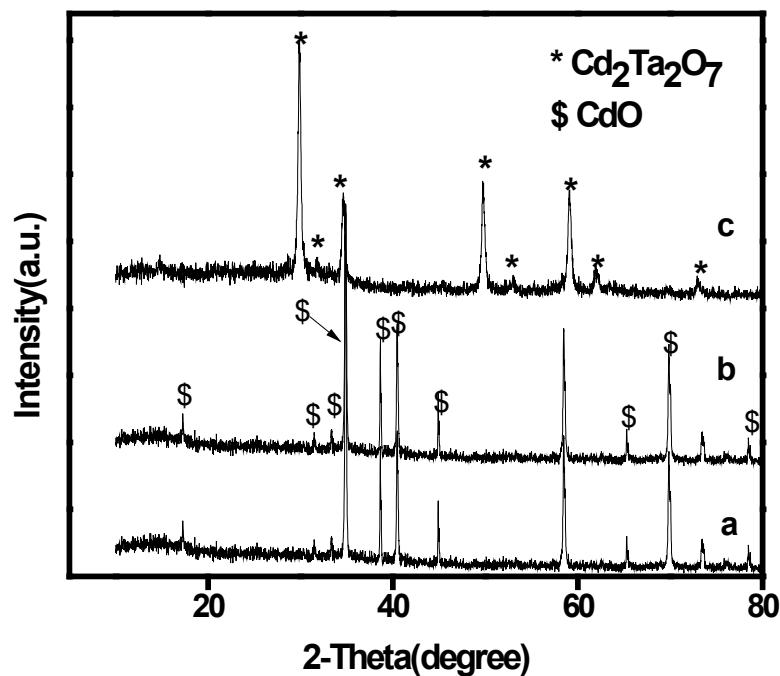

Figure S2
**Figure S2:** XRD patterns of cadmium tantalate treated hydrothermally at 180°C for 48h and calcined at 600°C for 8h with different NaOH concentration (a) 0.1M (b) 0.3M and (c) 0.5M